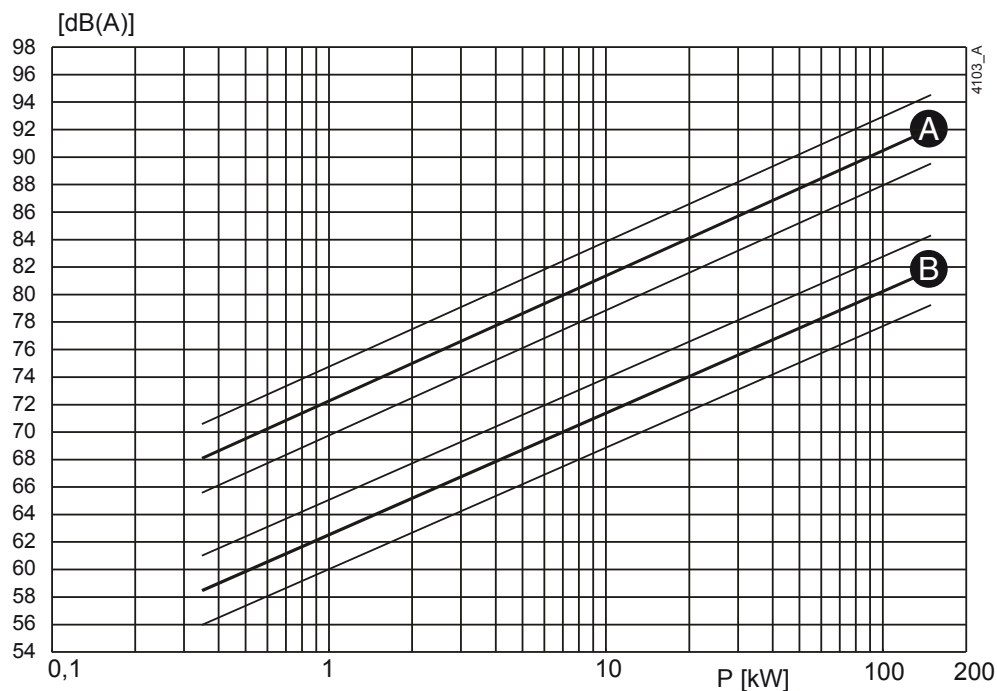
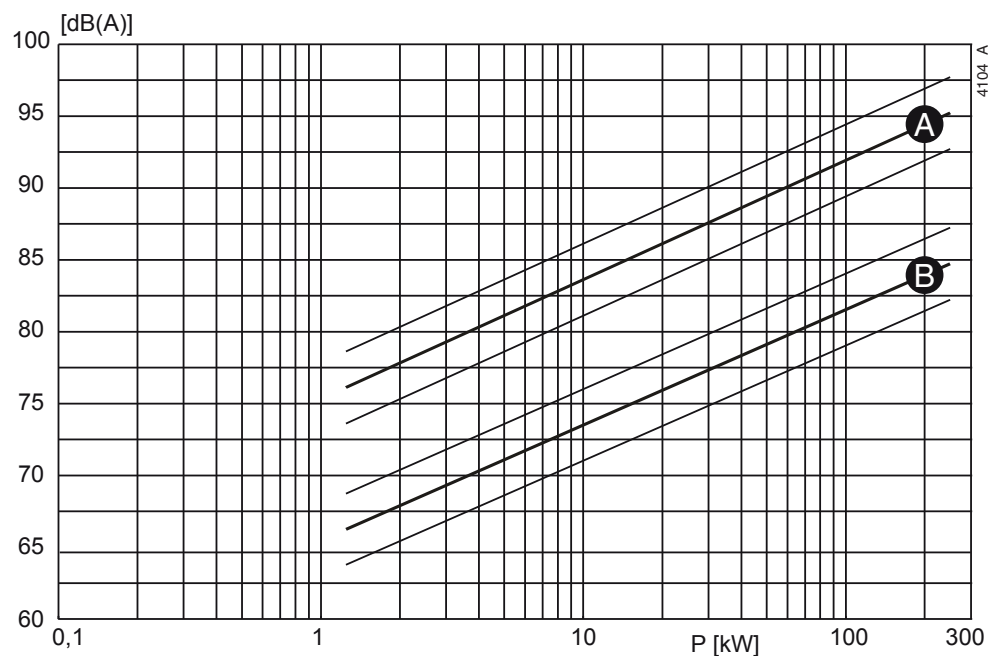

Figure 57: Noise level as function of pump power [kW] at 1450 min^{-1}
Figure 58: Noise level as function of pump power [kW] at 2900 min^{-1}
- 1 Determine the noise level (L1) of the pump, see figure 57 or figure 58.